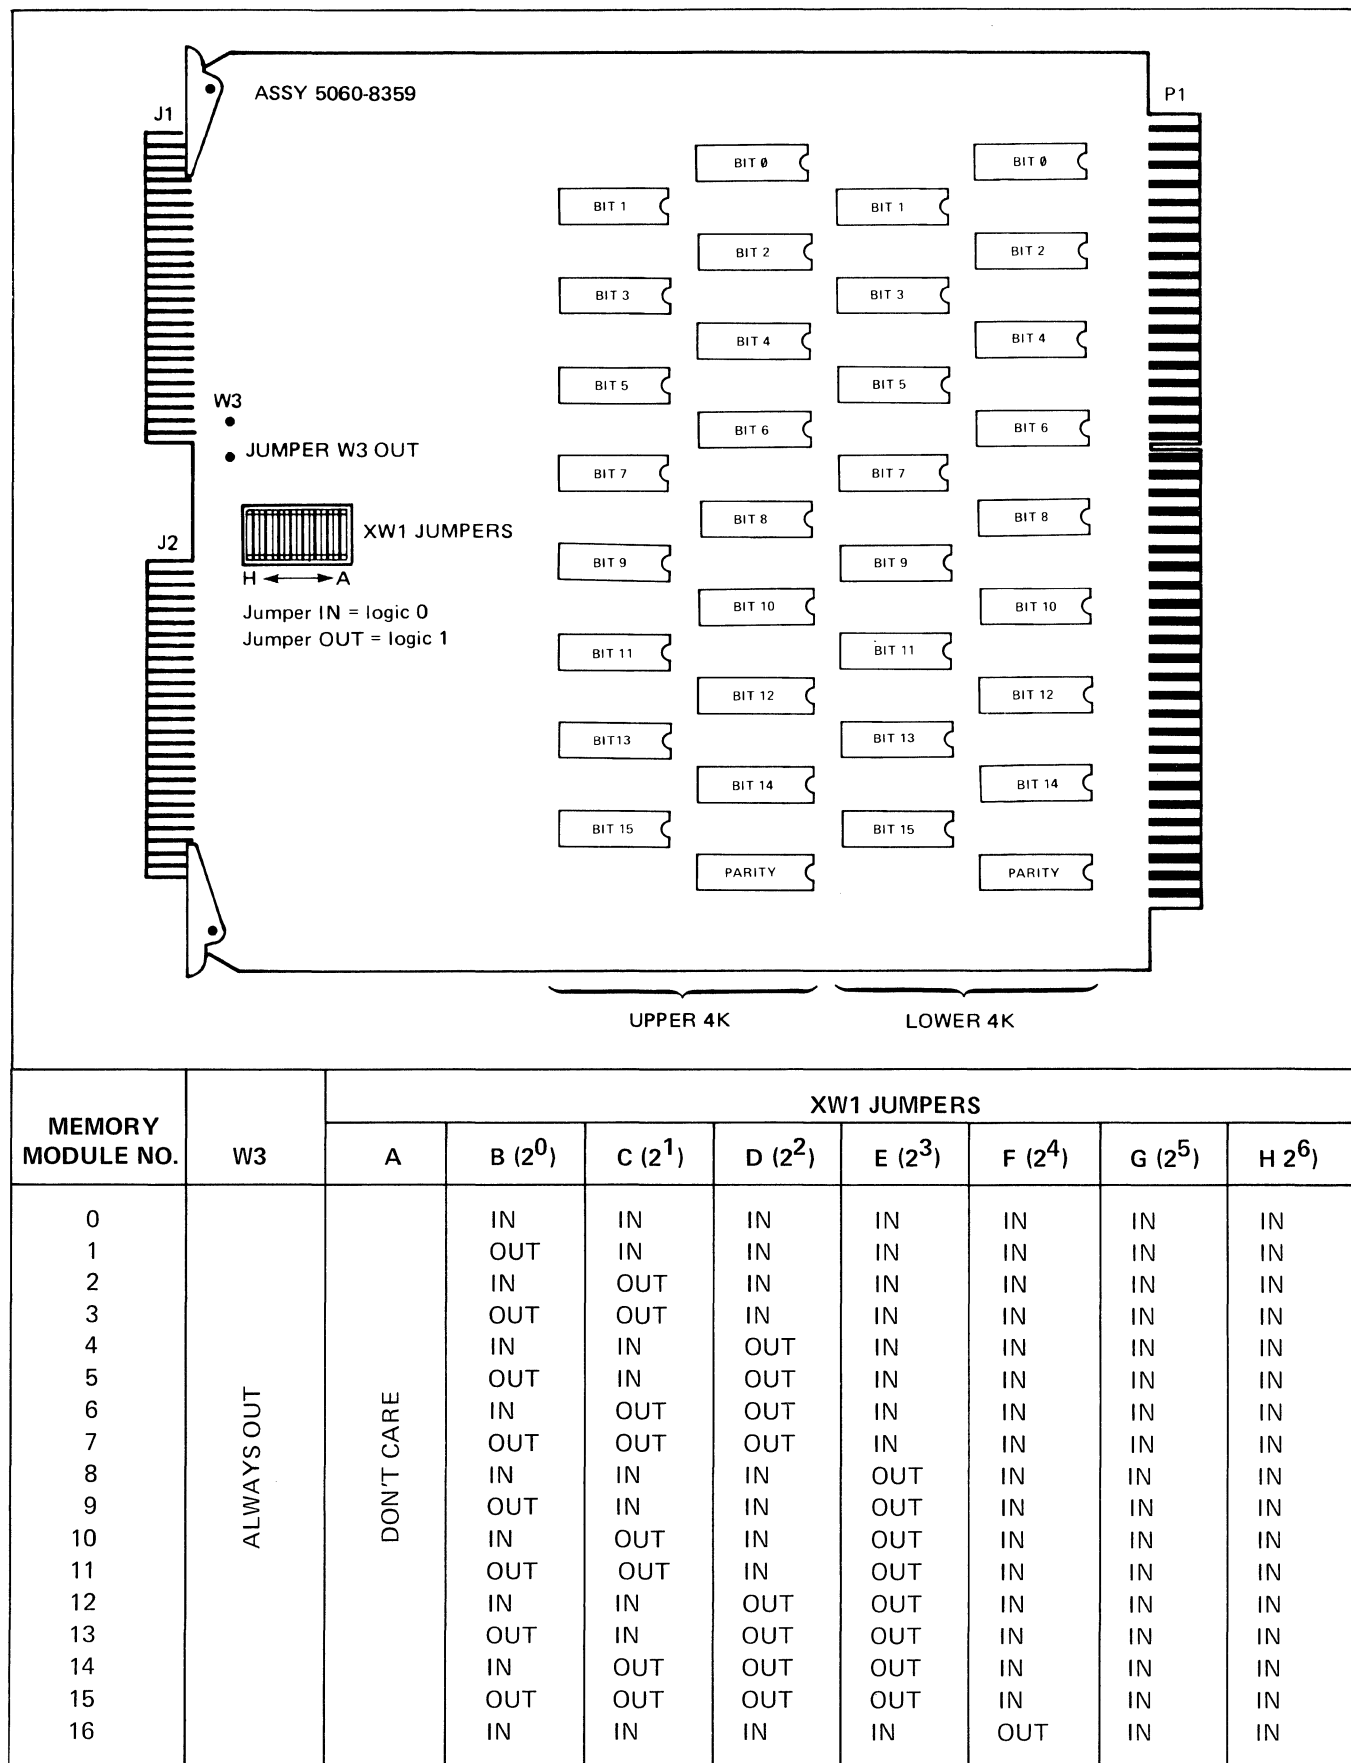

Figure 2. 8K Memory Module
- e. If necessary, reassign memory module number(s) to displaced 8K memory module(s) by installing XW1 jumpers as specified in figure 2.
- g. If necessary, reassign memory module number(s) to displaced 8K memory module(s) by installing XW1 jumpers as specified in figure 2.